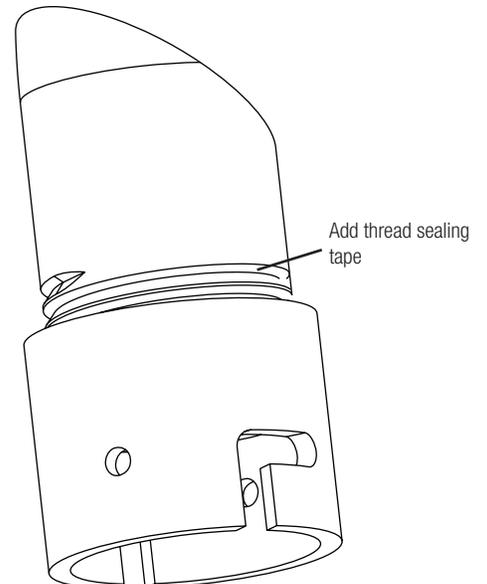

Figure 2
2. Attach the housing coupling (Figure 2).